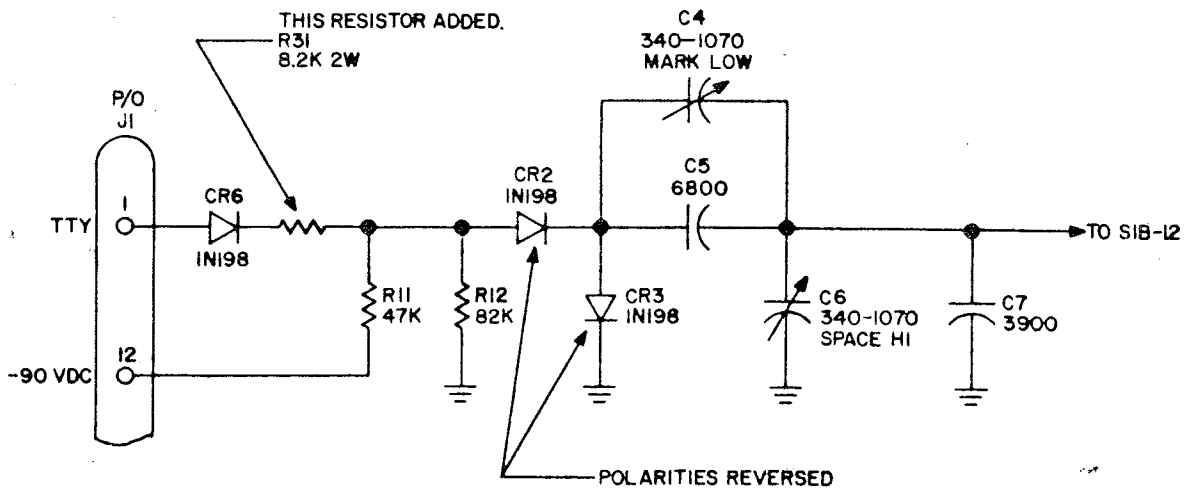

Figure 1. Modified Converter-Monitor CV-730/URC, Provides FSK Reversal—Mark Low, Space Hi. Unit 5, AN/URC-32, -32A, -32B Partial Schematic.
1. Refer to figure 1 of this change and technical manual NAVSHIPS 0967-066-7010, figure 5-63 and 5-119 and proceed as follows: